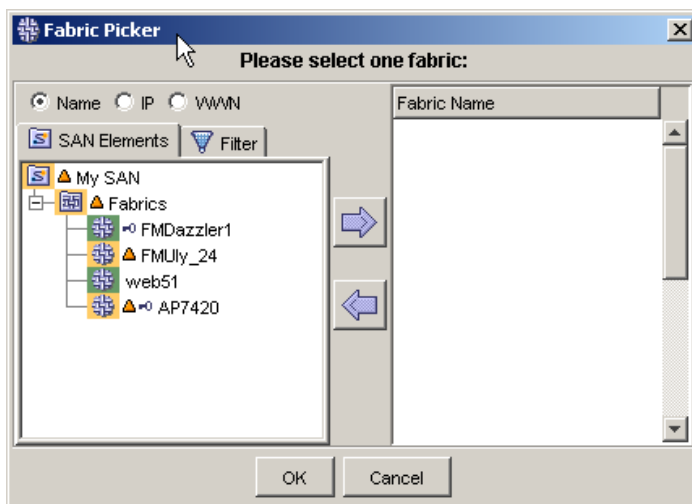

Figure 139 Fabric Picker dialog box
2. The Fabric Picker dialog box opens (see Figure 139).
2. The Fabric Picker dialog box displays (see Figure 139 on page 217).
The Fabric Picker dialog box opens (see Figure 139 on page 217).